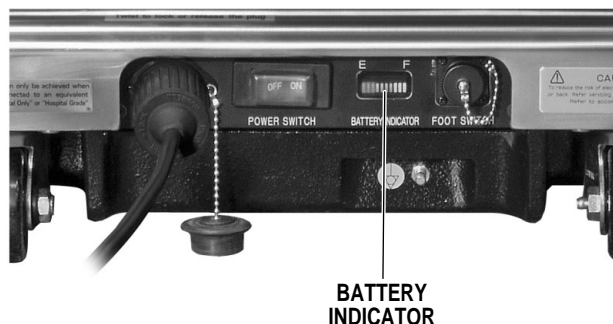

Figure 2-3. Battery Indicator
a. **Battery Indicator** The Battery Indicator consists of ten lighted bars, 3 red, 4 yellow and 3 green. See figure 2-3. Each bar represents a percentage of the battery charge condition. When all ten bars are illuminated, the batteries are fully charged. The following list shows the battery charge level as indicated by the lighted bars;